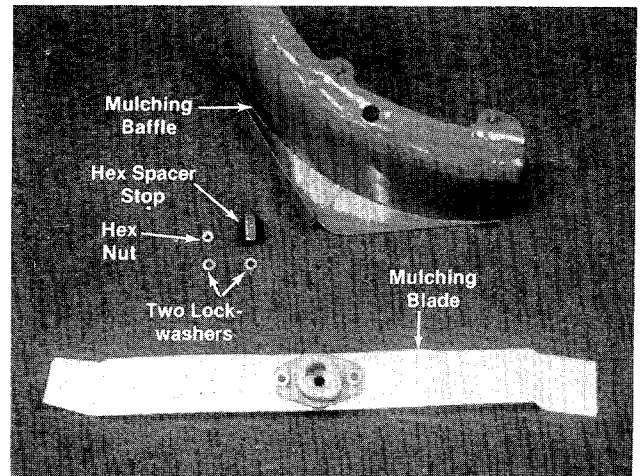

FIGURE 12.
4. For normal mowing you should have removed the items shown in figure 12. Have the standard blade installed and the chute deflector down.